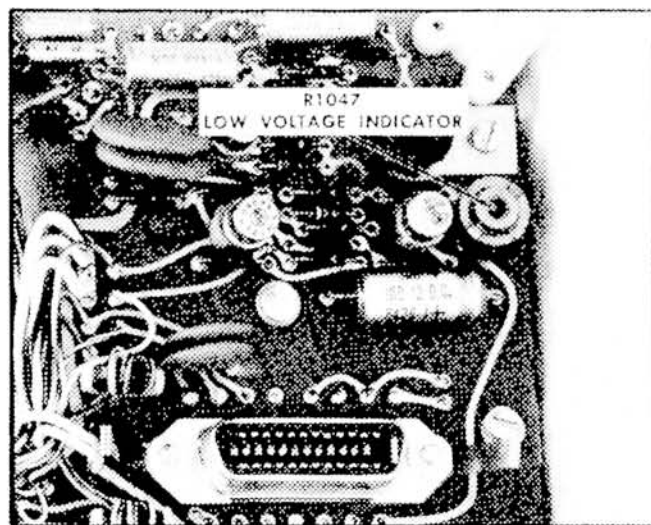

Fig. 6-8. Location of R1047 (LOW VOLTAGE INDICATOR) adjustment.
- e. Turn the LOW VOLTAGE INDICATOR control, R1047, fully clockwise (see Fig. 6-8), then check the POWER Light on the Type 422 Indicator for a steady light.